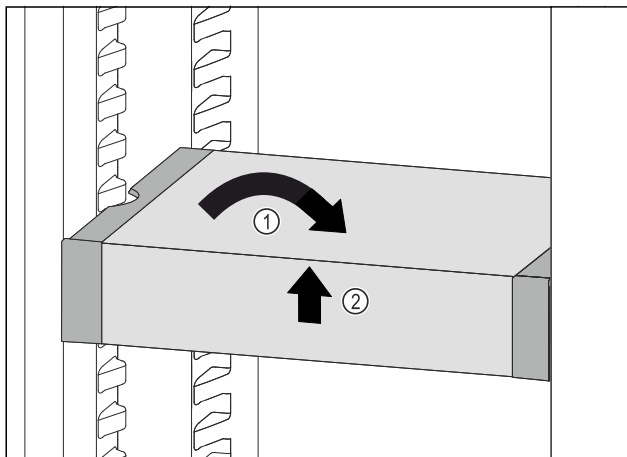

Fig. 119
- Set VarioSafe straight. Fig. 119 (1)
- Lift VarioSafe at the front. Fig. 119 (2)